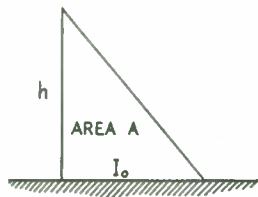
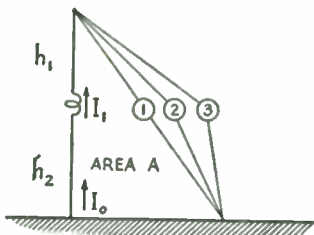

Fig. 2 — Current distribution on a short vertical antenna.
Fig. 3 — Current distribution on a sectionalized or center-loaded antenna.
can be assumed to be linear. This is shown in Fig. 2.
Now consider the effect of introducing a series loading coil, as shown in Fig. 3. If the inductance of the loading coil is zero, the current distribution will be curve (1), as shown in Fig. 3. This is obviously that of a simple base-loaded radiator, as shown in Fig. 2. As the inductance is increased from zero, the current distribution is modified to that of curve (2). At some value of inductance,  $L_0$ , the input impedance of the antenna as seen between the base of the antenna and ground is a pure resistance with no reactive component. For this value of inductance,  $L_0$ , we have the maxi-
imum current area on portion  $h_2$ . This is shown as curve (3) of Fig. 3. For this condition, the current flowing through  $L_0$ ,
Now consider the sectionalized antenna, as shown in Fig. 3. Firstly, we calculate the reactance of the top portion. From this we subtract the lumped reactance of the loading coil, and finally the input reactance of the antenna is calculated by assuming the lower portion an open-ended transmission line, terminated in the resultant reactance of the loading coil and the top section. If the antenna is resonated so that the base reactance is zero, it can be shown that the reactance of the inductor required is